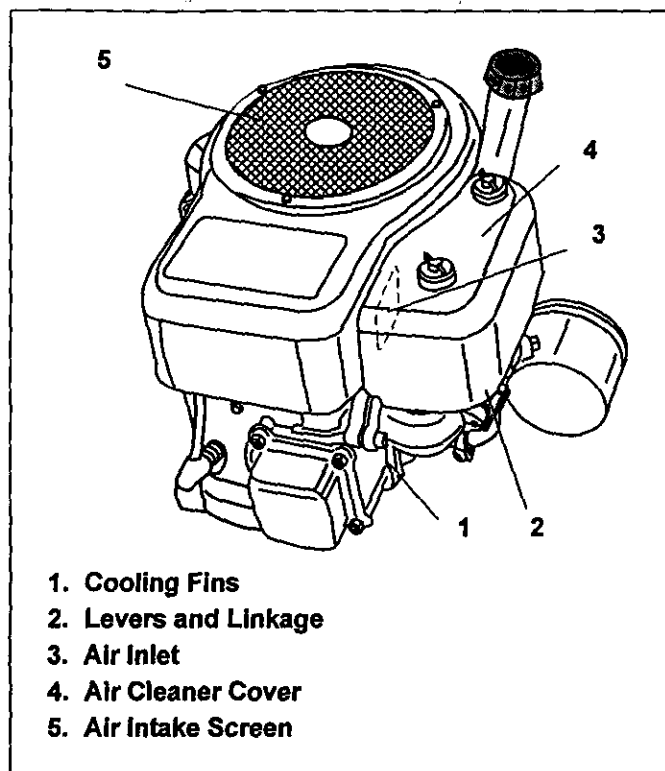

Figure 21. Debris Locations
Removing debris will insure adequate cooling, correct engine speed and reduce the risk of fire. See Figure 21.
Before removing air cleaner cover see "III. Filter Removal/Installation" instructions on page 12. Special care should be taken to prevent damage when removing air cleaner cover. See Figure 21. Afterward, continue reading instructions below.
1. Remove air cleaner cover and filters. See Figure 21.